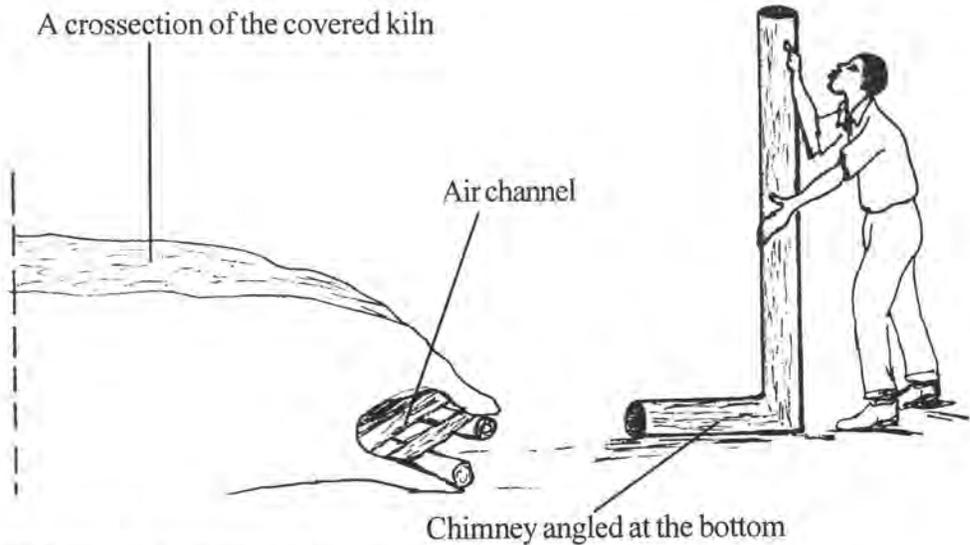

Figure 5.5: The chimney is placed at one end of the air channel
6. Place the chimney at one end of the the kiln. The chimney is angled at the bottom end to connect into the air channel (Figure 5.5). The angled extension is 1m long